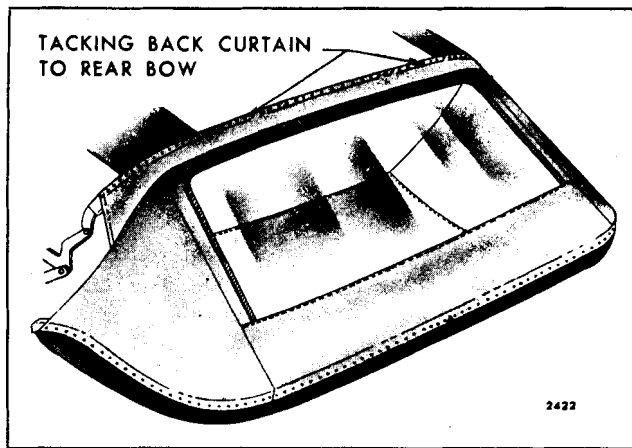

Fig. 12-15-Tacking Back Curtain
9. With front roof rail locked to windshield header, and with top cover laying on rear deck, tack back curtain to rear bow as follows: Remove all stay tacks except two at outer ends supporting back curtain. Then pull curtain forward to remove all fullness and tack curtain to rear bow. Tack from center toward each end of curtain. Remove stay tacks. Apply forward tension to curtain at each point of tack installation (Fig. 12-15).